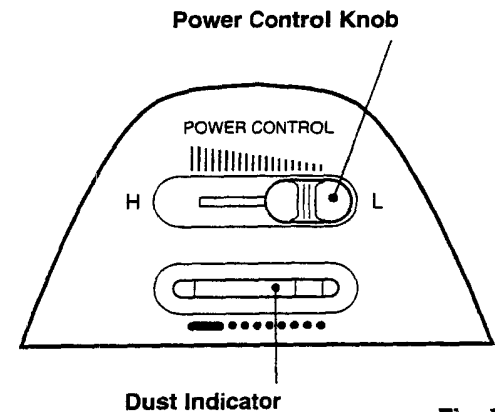

Fig. 7
- 2 To turn off the vacuum cleaner, touch the switch to the "OFF" position. (Fig. 7)